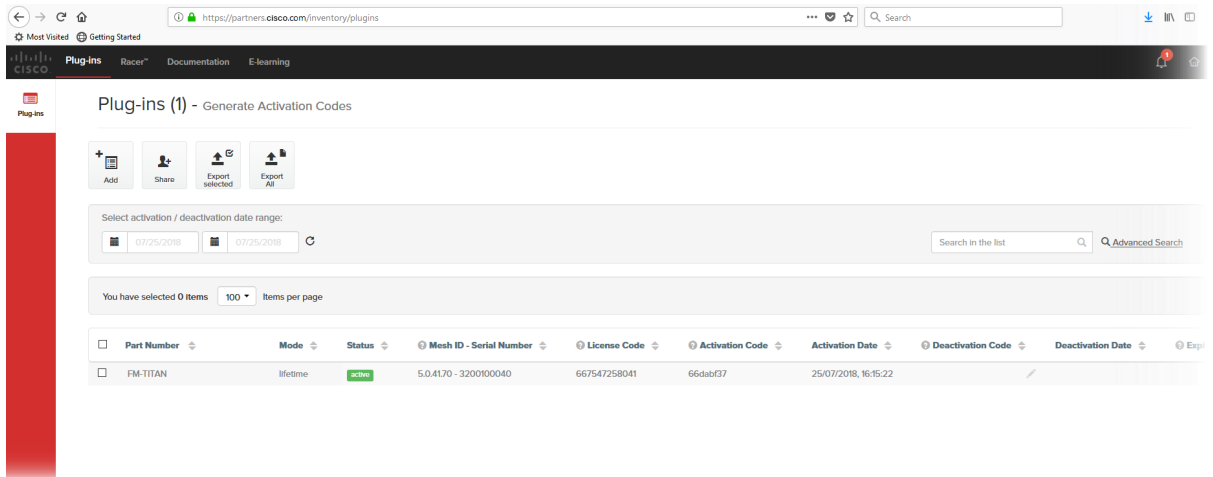

Figure 51. Partner Portal Plug-ins page (License code deactivation)
- The Plug-ins web page will be shown (Figure 51 (page 108)).